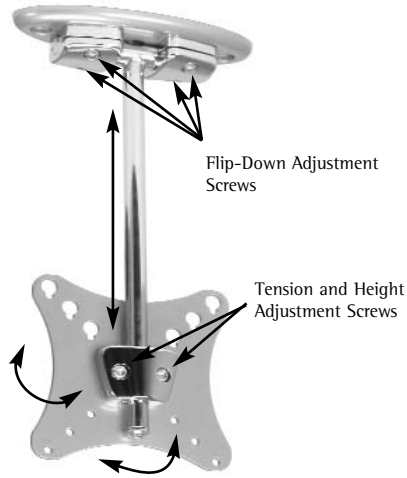

Figure 4. Flip-Down Mount Adjustments
3. Once the desired position has been achieved, retighten all adjustment screws (Figure 4).